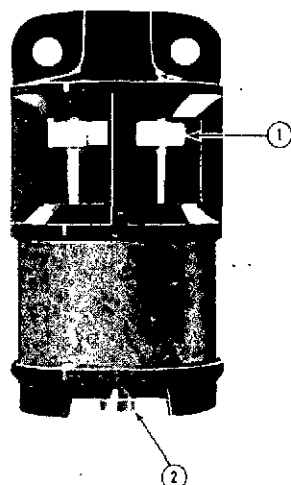

Fig. 5-9, V51001. Air inlet restriction gauge
1. A mechanical restriction gauge is available to indicate excessive air restriction. This gauge can be mounted in air cleaner outlet or on vehicle instrument panel. The restriction indicator signals when to change cartridges. The red flag (1, Fig. 5-9) in window gradually rises as cartridge loads with dirt. Do not change cartridge until flag reaches top and locks in position. When locked, flag will remain up after engine is shut down. Change cartridge when flag locks at top. After changing cartridge, reset indicator by pushing re-set button (2). Push button all the way in firmly; then release. If button sticks, repeat pushing slowly.